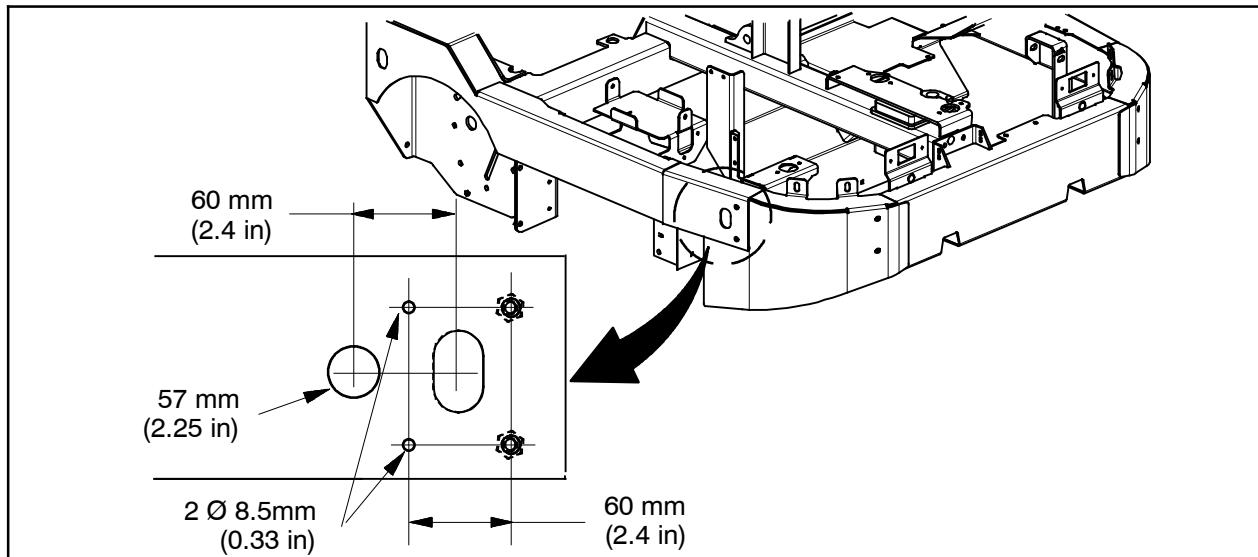

FIG. 1
1. Drill two 8.5 mm (0.33 in) holes through the frame of the machine. (Fig. 1)
2. Use a 10 mm tap to thread each hole drilled in the previous step. (Fig. 1)
3. Use a 57 mm (2.25 in) hole saw to cut a strap down hook hole into the frame of the machine. (Fig. 1)
4. Repeat Step 1 through Step 3 on the other side of the machine. (Fig. 1)